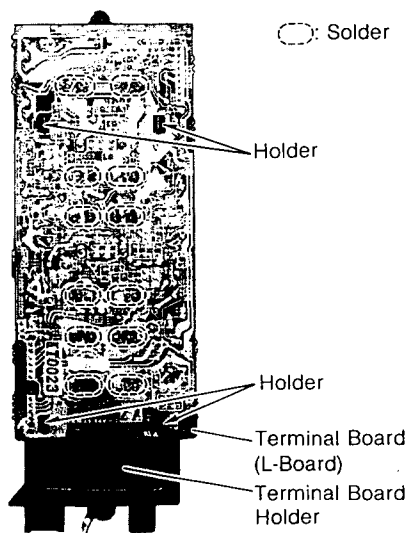

Figure 8
- Unsolder the points indicated in fig. 8 and remove the terminal board holder from the terminal board (L-Board).